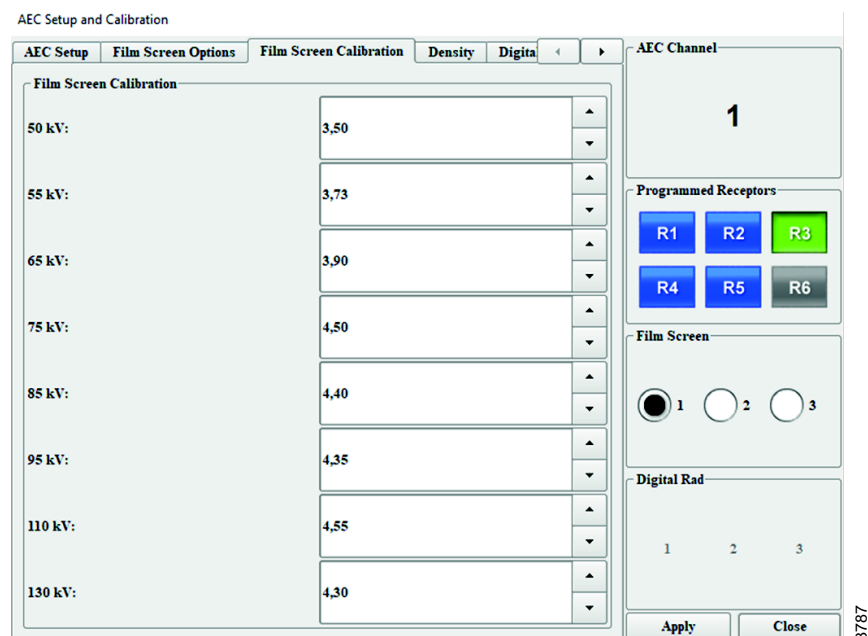

Fig. 4-224 AEC setup and calibration
- Set the value in the 75 KV dialog box to 4,50, see **Fig. 4-224** (see figure 5 below) for the relevant AEC channel and filmscreen
- Repeat the **4.39.4.1 Determination of AEC cut off EI** procedure, with the KV levels (except 75 KV) shown in **Fig. 4-224**, using the phantom sizes in the table: